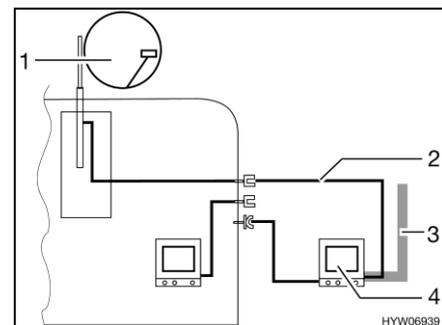

Fig. 124 TV in the awning
- TV inside the awning (Fig. 124,4): Connection to roof antenna (Fig. 124,1) with connection cable (Fig. 124,2)
- TV inside the awning (Fig. 124,4): Connection to external antenna (Fig. 124,3)